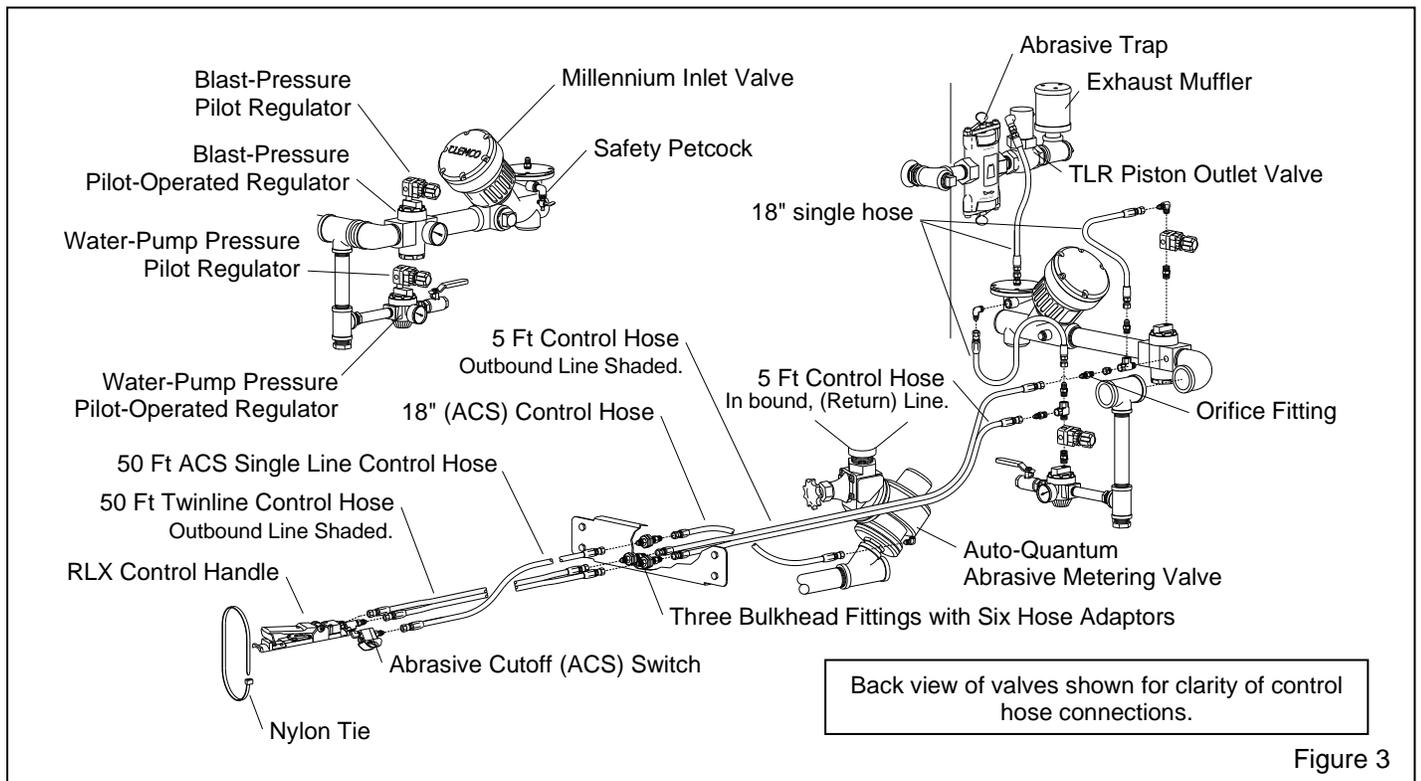

Figure 3
1.6.2.4 Clemco remote controls operate pneumatically on return air. Control air travels from the orifice fitting located on the inlet end of the blast-pressure regulator, down the outbound line (Shown shaded in Figure 3) and escapes through the opening located under the RLX control handle lever. The normally-closed inlet valve remains closed, and the normally-open outlet valve remains open. As long as air escapes through the handle’s opening, the remote control system remains dormant.